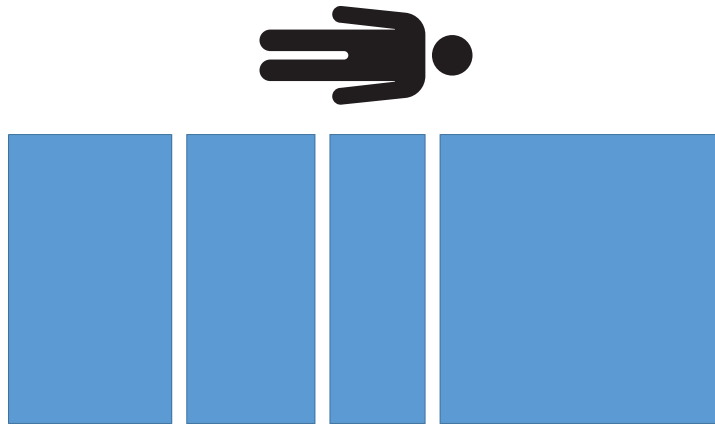

Figure 33 – Tare test - no weight
13. Remove all calibrated weights from the product (Figure 33).